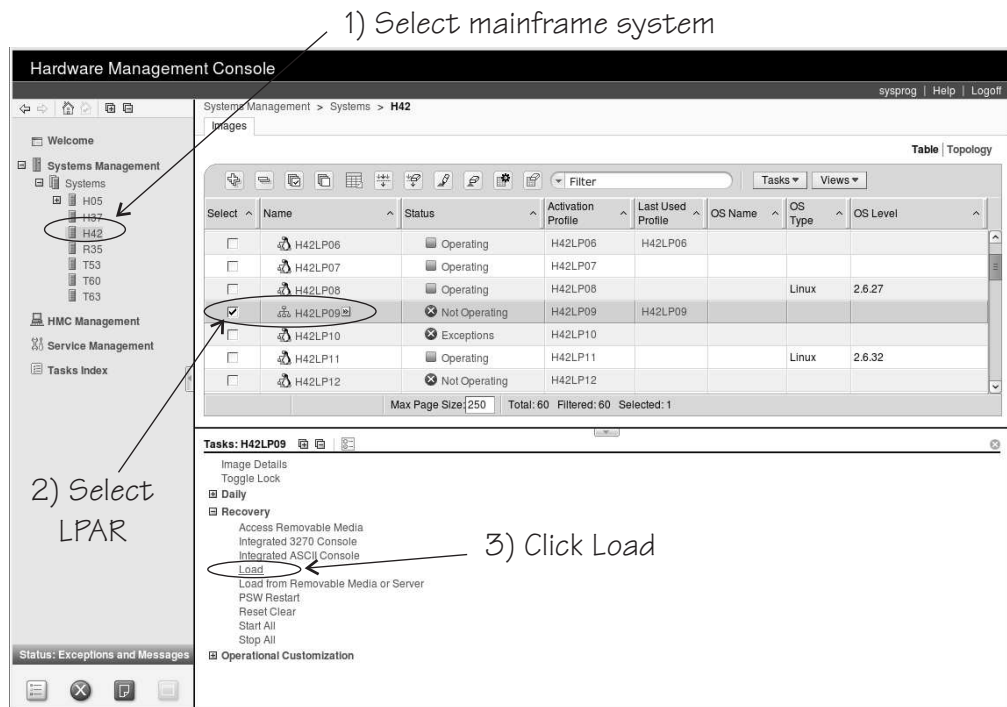

Figure 26. Load task on the HMC
3. In the **Tasks** area, expand **Recovery** and click **Load** as shown in Figure 26 on page 102.